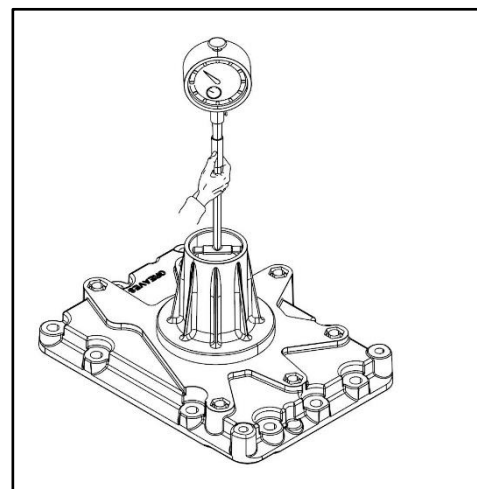

Fig. 9.14
2. Measure with dial gauge crankshaft bearing, oil seal and cam shaft housings. Check housing diameters (Fig. 9.14) at three different heights.